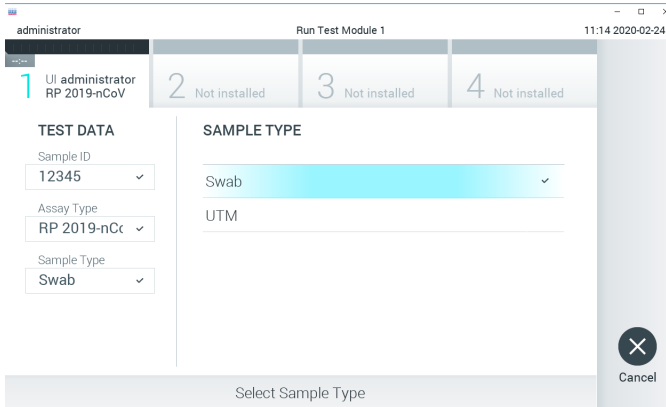

Figure 13. Selecting sample type.
15. Select the appropriate sample type from the list (Figure 13).